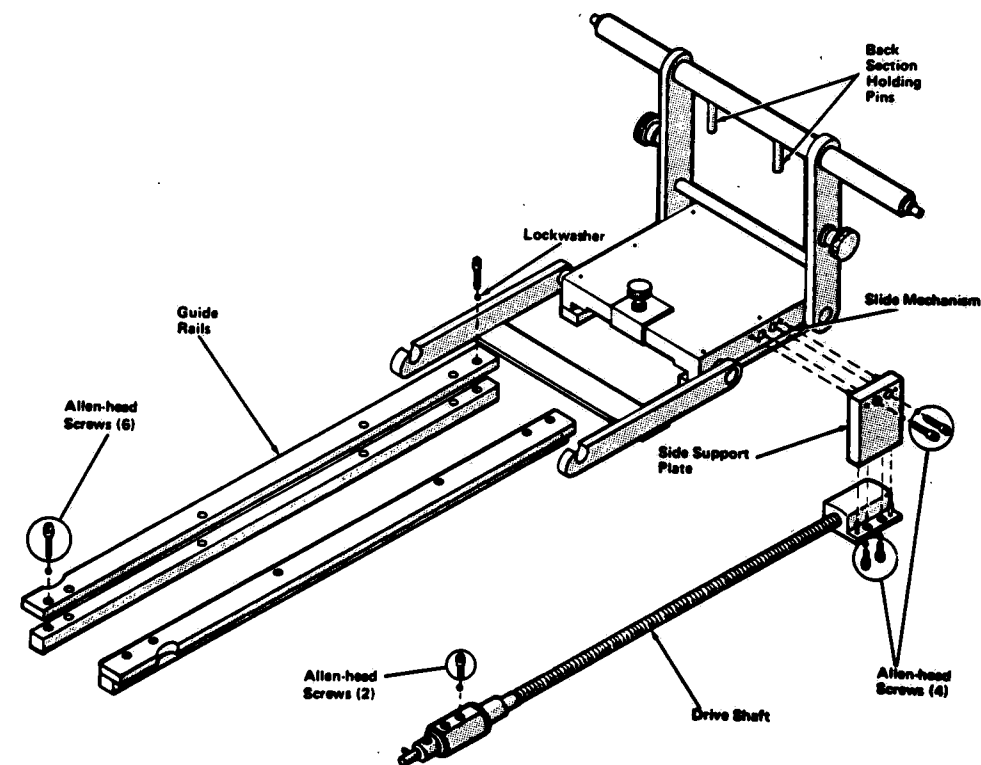

Figure 5-1. DRIVE SCREW AND SLIDE MECHANISM ASSEMBLY.
5.1 BACK SECTION DRIVE SHAFT (Figure 5-1)